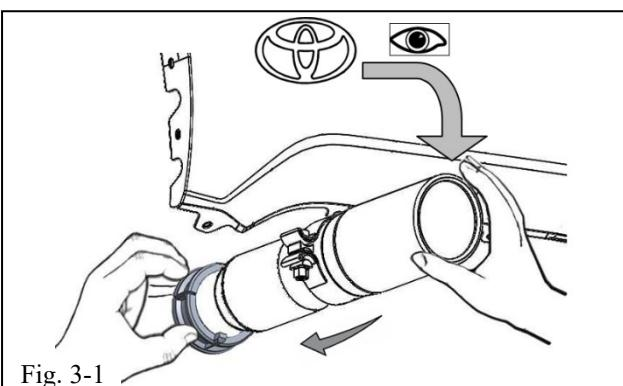

Fig. 3-1
- (a) With the Toyota logo facing up, push the exhaust tip over the aluminum spacers and onto the exhaust pipe. Ensure the tip is fully seated. (Fig 3-1)